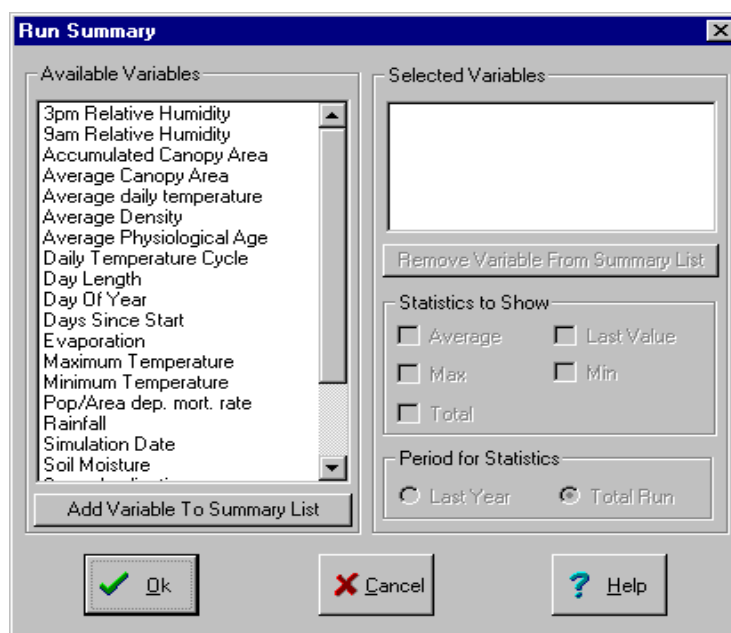

Figure 14.1 Run Summary Settings Window
2. Select ‘**Execution**’ from the menu bar followed by ‘**Define Run Summary Settings...**’ to obtain its window (figure 14.1);